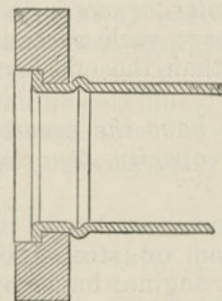

Fig. 79. Counterbored Tube Sheet.
A. The amount of flue that is exposed to the heat and is not protected by the water is diminished. (See Fig. 79.)